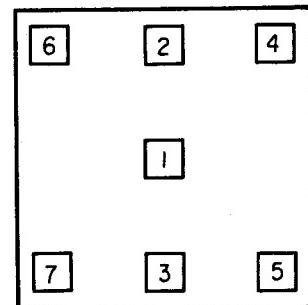

Fig. 7
5. While moving the cursor from [1] to [7] in sequence, perform the landing adjustment as explained above. (Fig.7)